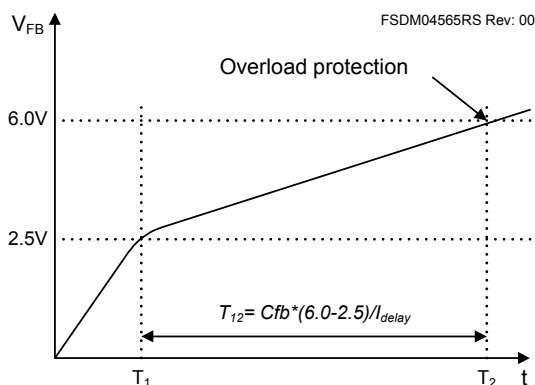

Figure 20. Overload Protection
3.1 Overload Protection (OLP): Overload is defined as the load current exceeding a pre-set level due to an unexpected event. In this situation, the protection circuit should be activated to protect the SMPS. However, even when the SMPS is in the normal operation, the overload protection circuit can be activated during the load transition. To avoid this undesired operation, the overload protection circuit is designed to be activated after a specified time to determine whether it is a transient situation or an overload situation. Because of the pulse-by-pulse current limit capability, the maximum peak current through the SenseFET is limited, and therefore the maximum input power is restricted with a given input voltage. If the output consumes beyond this maximum power, the output voltage (V_O) decreases below the set voltage. This reduces the current through the opto-coupler LED, which reduces the opto-coupler transistor current, thus increasing the feedback voltage (V_{FB}). If V_{FB} exceeds 2.5V, D1 is blocked and the 3.5 μ A current source starts to charge C_B slowly up to V_{CC} . In this condition, V_{FB} continues increasing until it reaches 6V, when the switching operation is terminated as shown in Figure 20. The delay time for shutdown is the time required to charge C_B from 2.5V to 6.0V with 3.5 μ A. In general, a 10 ~ 50ms delay time is typical for most applications.